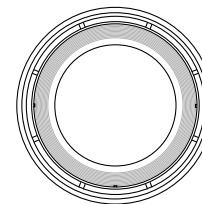

Figure 3
- Step 2. Remove the clip-on lens cover with the aid of a screwdriver as shown in figure 3.
- Step 3. Unscrew the (6) six lens screws to unclip the lamp from the lamp socket as shown on the Assembly drawing.
- Step 5. When reassembling the PAL TREO fitting ensure the "O" ring is sitting correctly and replace the (6) lens screws and ensure the screws are not overtightened. Fit the lens cover.